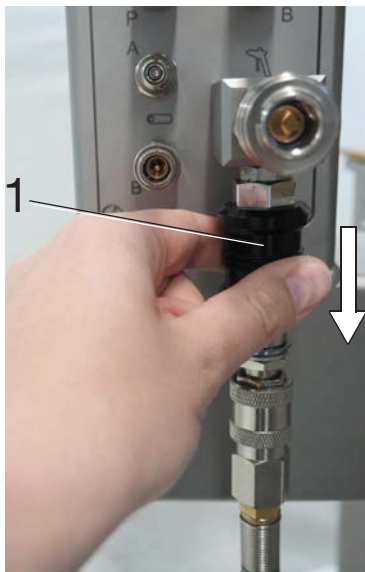

Fig. 9-9 Arrow: pointing against the direction of flow
- Push the air release valve (1, Fig. 9-9) against the direction of flow (see arrow, Fig. 9-9), thereby opening it.